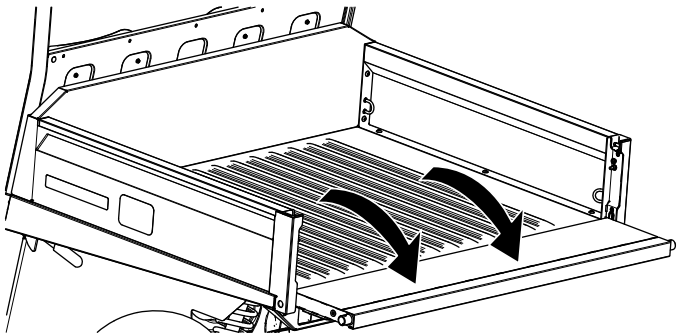

Figure 44
3. Lower the tailgate until it is flush with the bottom of the cargo bed (Figure 44).